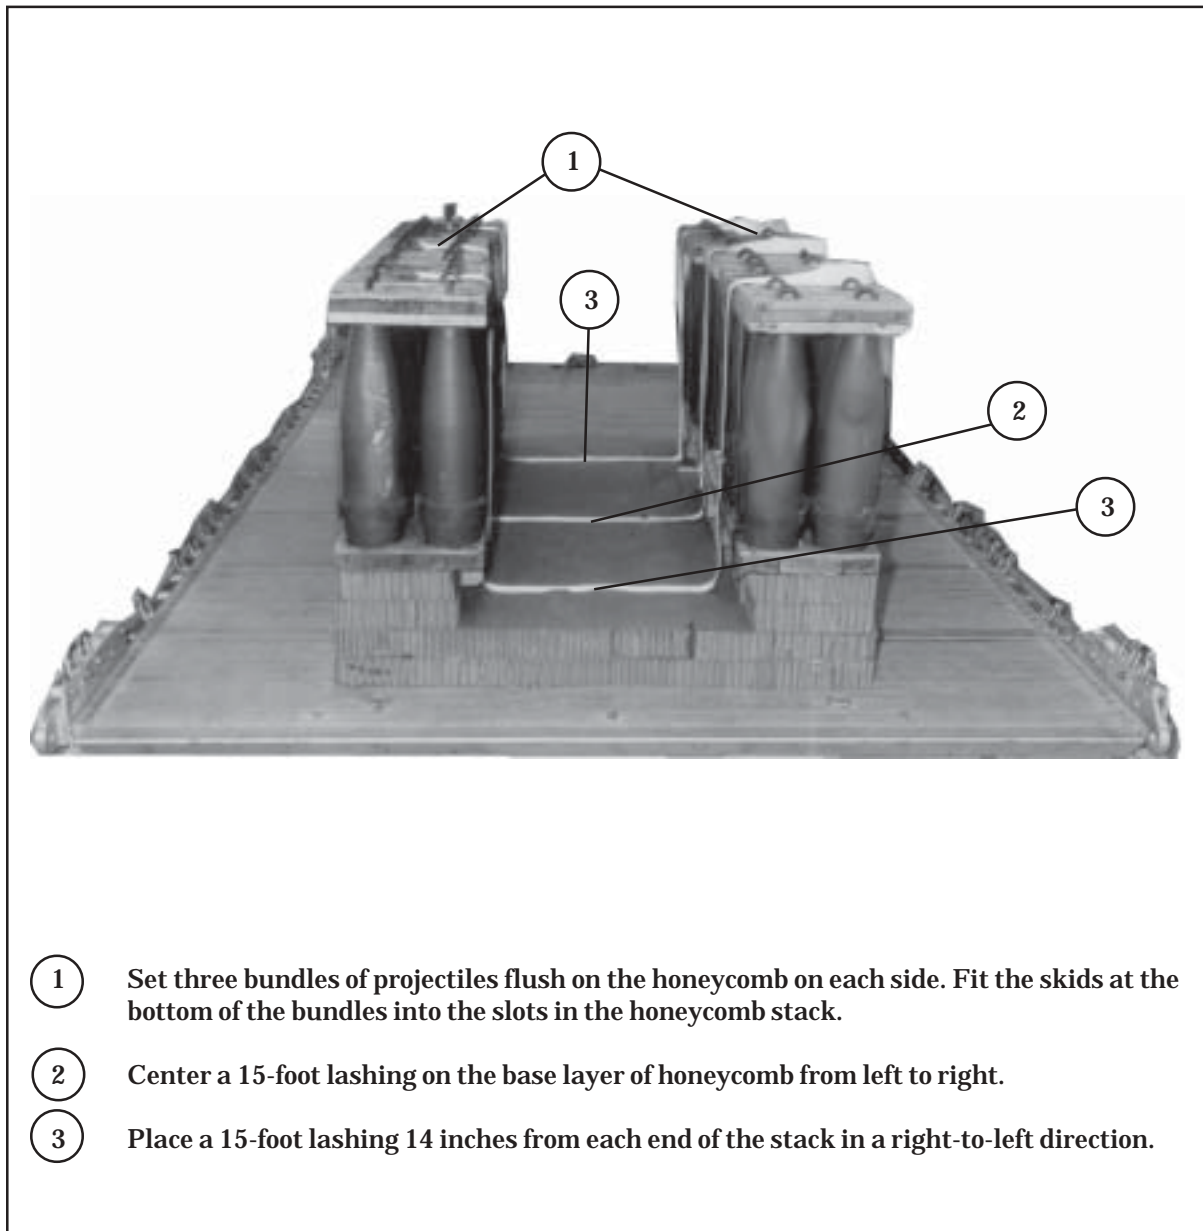
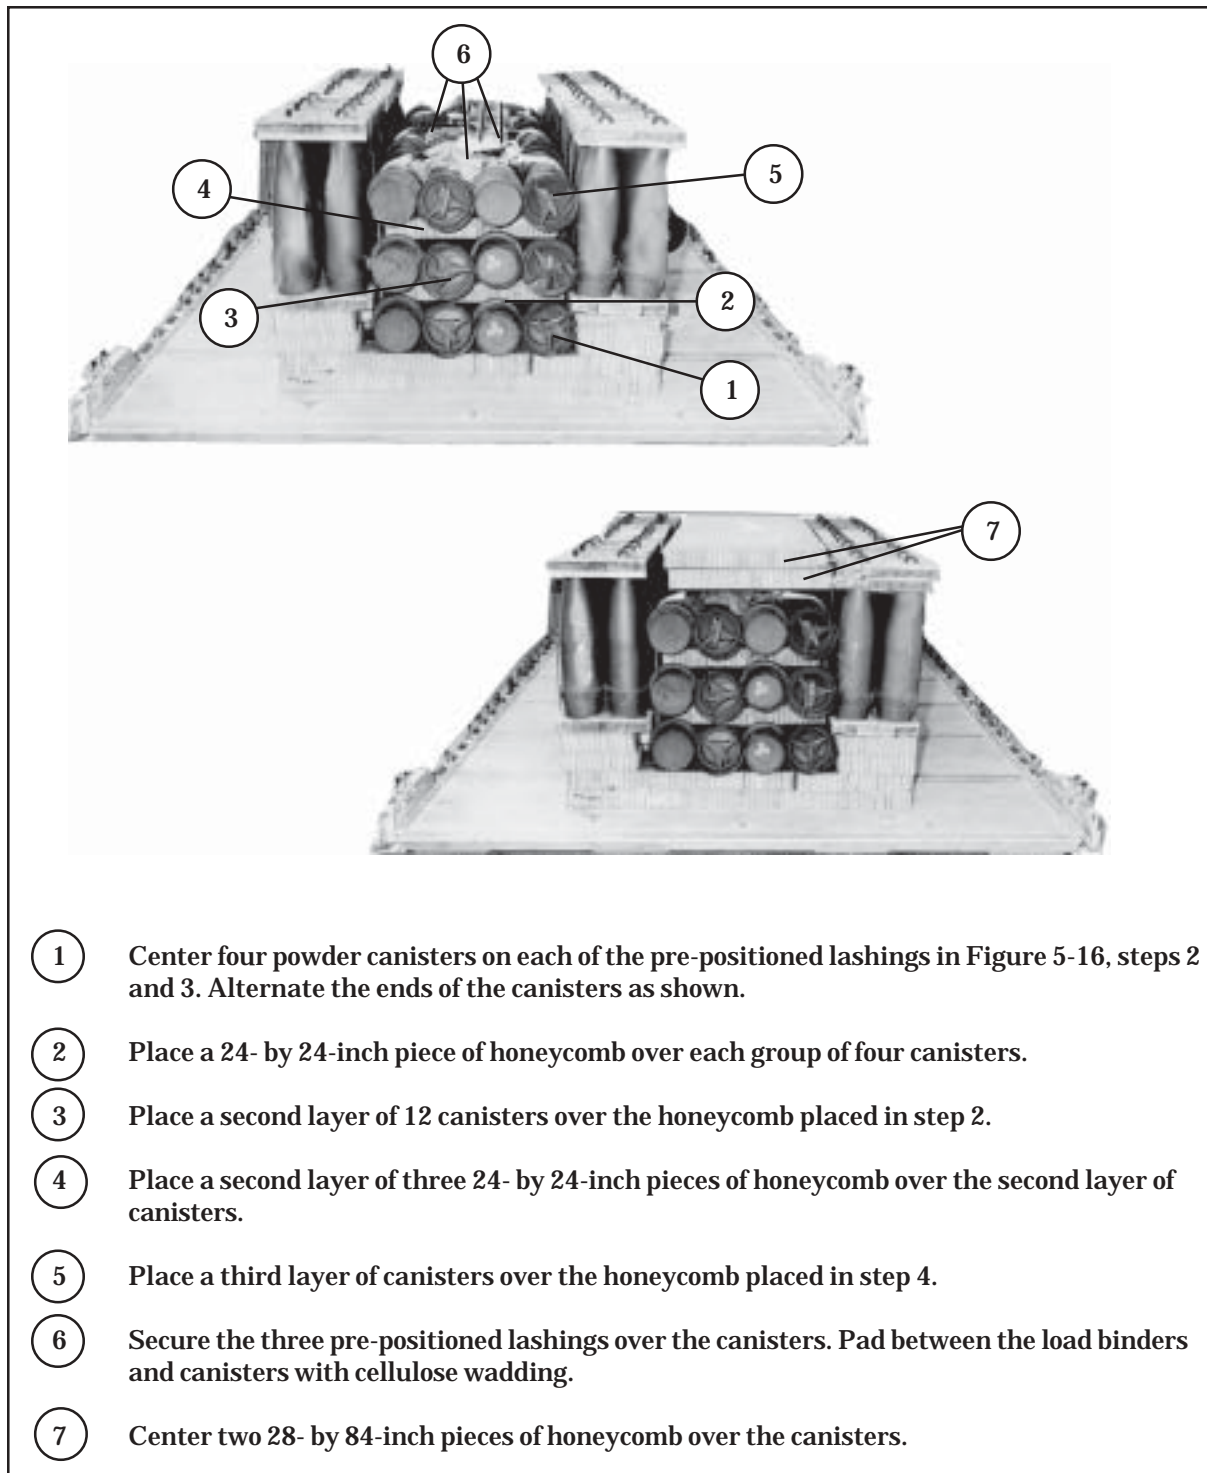

Figure 5-16. Projectiles Placed on Honeycomb and Lashings Pre-positioned
Figure 5-17. Canisters Stowed and Secured
5-20. Set six sets of projectiles on the honeycomb and pre-position three lashings as shown in Figure 5-16. Stow 36 powder canisters and secure them as shown in Figure 5-17.
- b. Stow and secure six sets of projectiles and 36 powder canisters on the honeycomb as shown in Figures 5-16 and 5-17.